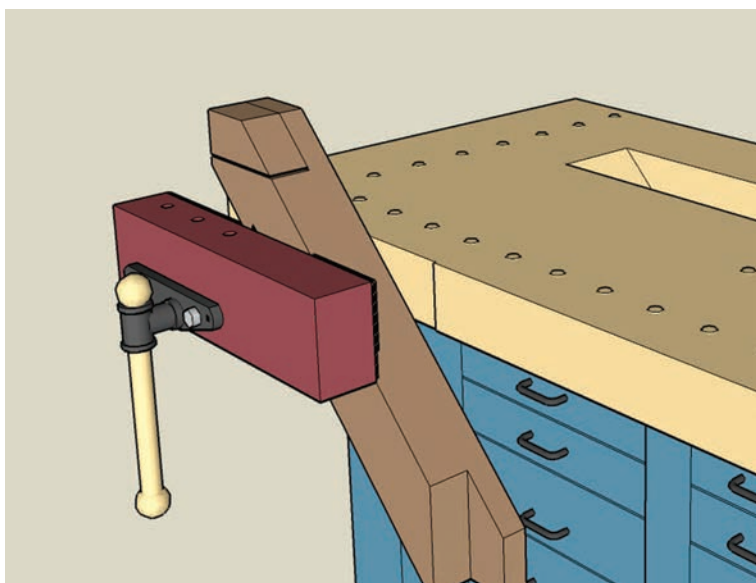

Fig. 7. Workpiece mounted in bench vise.
**Finishing the Tenon.** Now that the tenon cheek has been marked, you can rip cut it. Since this cut cannot be made on the miter saw, I decided to cut it with a portable circular saw. (Given a radial arm saw, the more powerful and adaptable original of sliding miter saws, you could do this cut like the others at a fixed machine. With care, you could also make this rip cut exactly on a table saw, though holding a heavy brace at 45 degrees to the table would need a jig.) Assuming you prefer to use a portable saw, take the brace to a workbench and clamp it in a vise. The brace should be mounted at a 45-degree angle, so that the leading end of the tenon is parallel to the floor (Fig. 7).